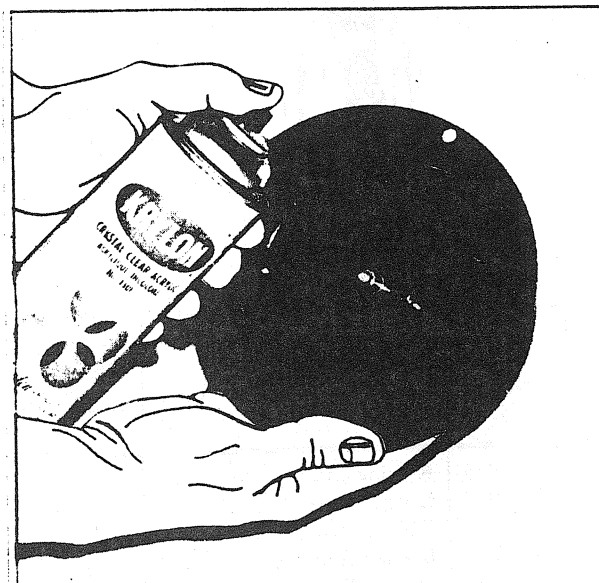

FIGURE 6
- Spray the inside of rewind starter housing with 'crystal clear'. Allow 5 min. to dry. (Fig. 6).